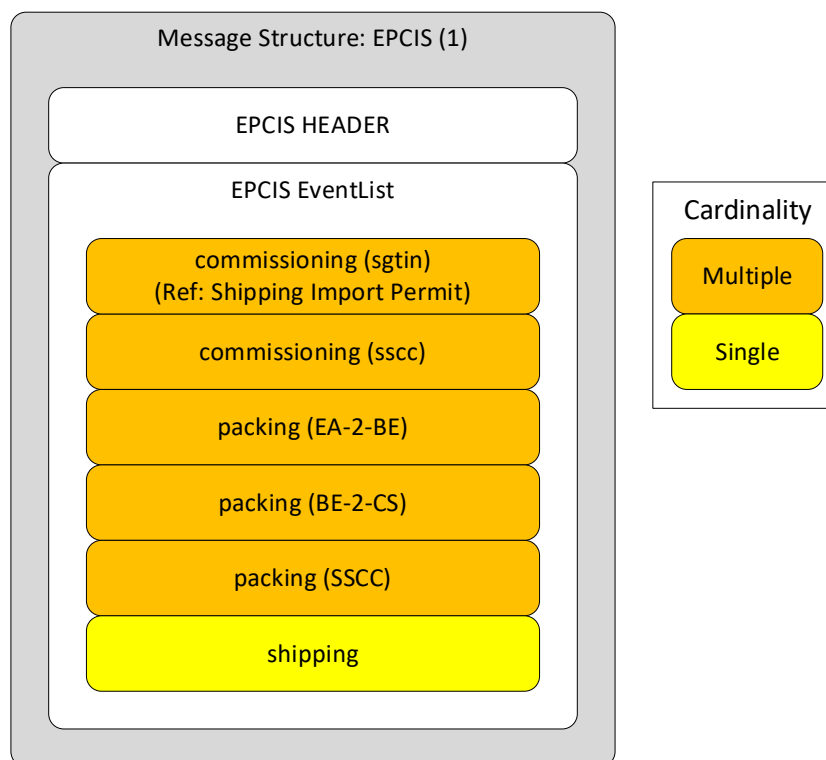

Figure 4 Importation EPCIS Message Structure
The order of the aggregation events must follow the top to bottom sequence shown in Figure 4.
6. All events in EPCIS message must be sorted in chronological order and this chronological order must follow the top to bottom sequence of the events in the event list shown in Figure 4. The earliest event time must be the *commissioning* events.